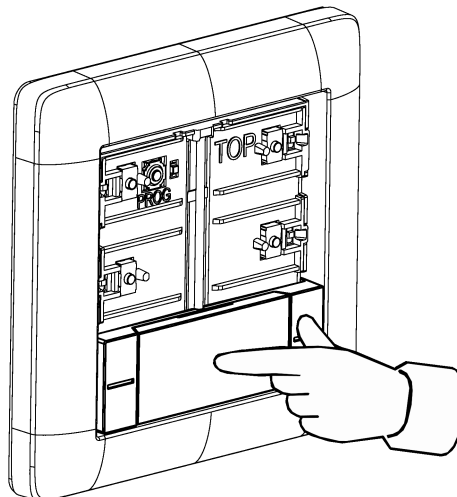

Figure 7: Press lightly in the middle of the rocker
- Press in the middle of the rocker (Figure 7).